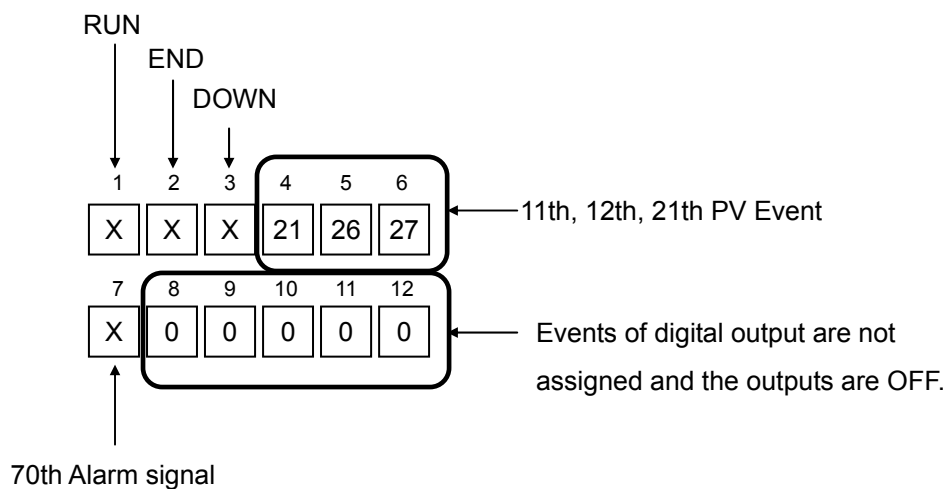

Fig. 3.10.1 The part to arrange events to digital outputs on FIX SET screen of User Manual
1. When Fix control and synchronous mode, if you need 3 Mode events (RUN, END, DOWN), 3 PV events (11,12, 21), and 1 Alarm event. You can arrange signals like below. And like figure 3.10.1, the event part has to be set in Fix Set screen.